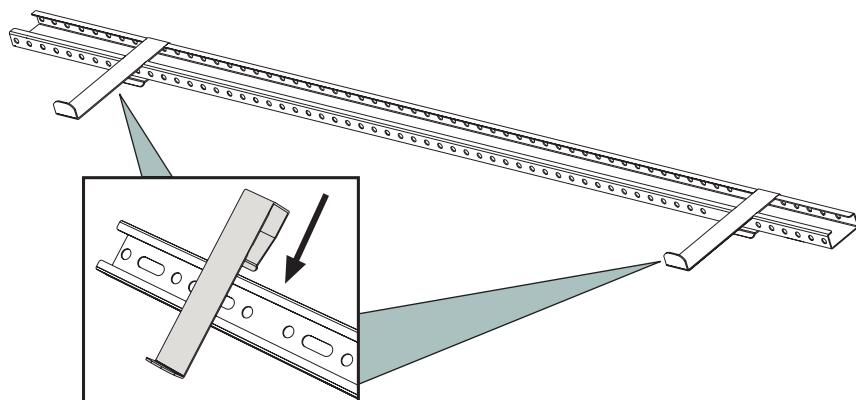

fig. 4
- 2 - Fit the brackets (fig.4)